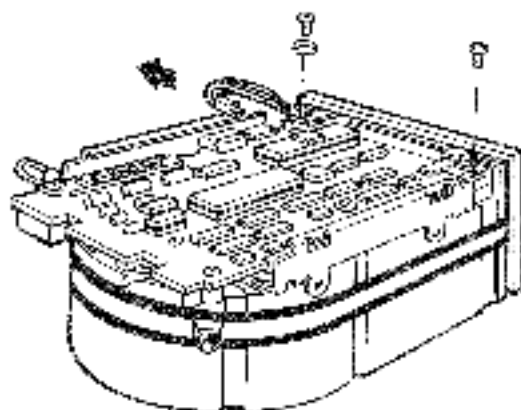

Figure 10-10 Two-Pin Connector and Screw Removal
2. Lifting the two-pin connector (Figure 10-10).